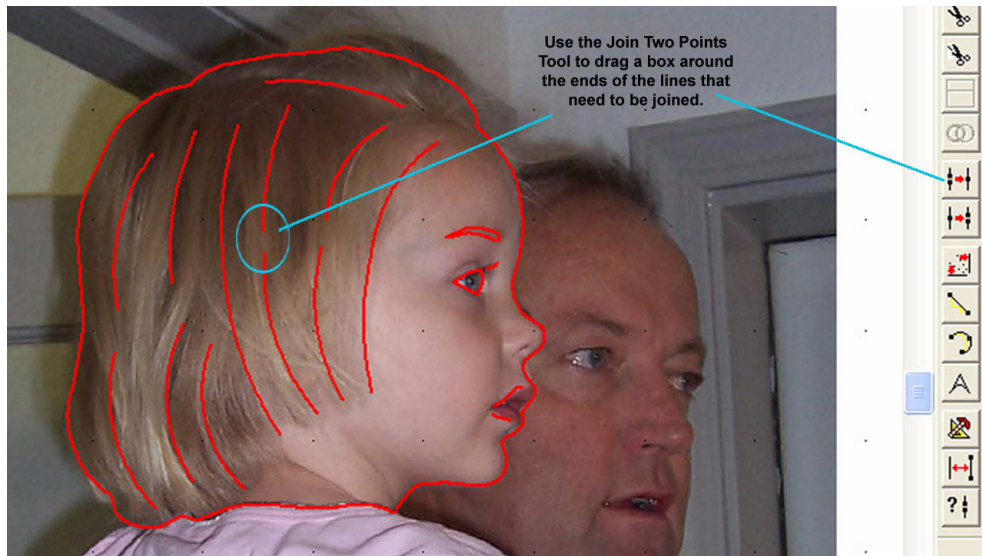

Figure 158
- 5** Click the **Redraw** tool. When you do, the line colors changes to red. See figure 158.
- 4 Use the **Draw Segment** tool to add individual accent lines. Accent lines do not connect the line made previously. See figure 158.